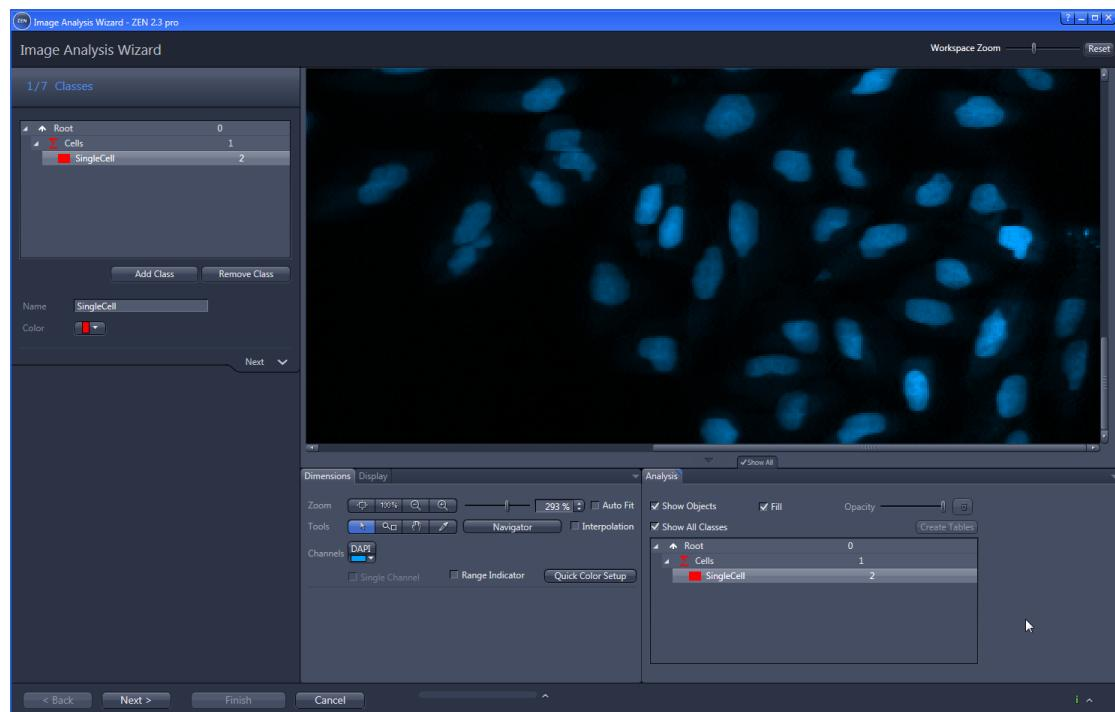

Figure 16: Image Analysis Wizard: Define the classes
1. Define the object and region class – in this case **SingleCell** and **Cells** (Fig. 16).